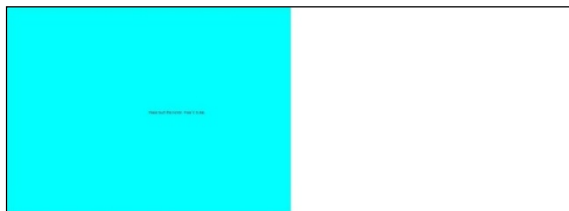

Fig.44
- Please follow the message show the display to match the controller and touchscreen. Please click “S” to skip if the monitor without use touchscreen. (Fig.44)